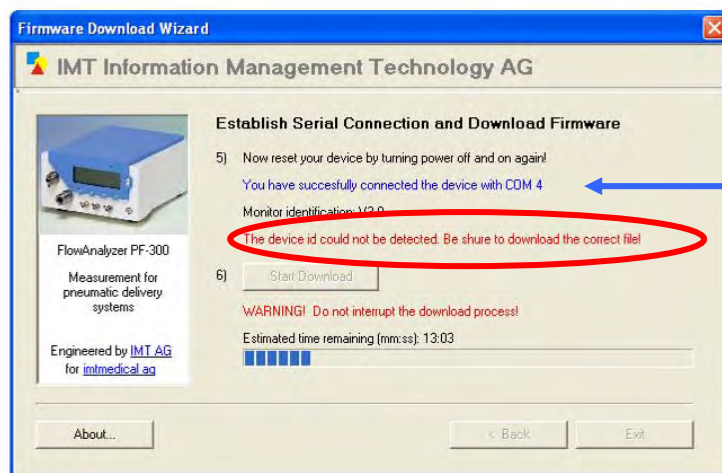

Figure 12-5
- Observe the screen for confirmation of a successful connection by the statement You have successfully connected to the device with COM X (Indicated by the arrow in Figure 12-5.) Ignore the statement: The device id could not be detected. Be sure to download the correct file. (Indicated by the circle in Figure 12-5.)